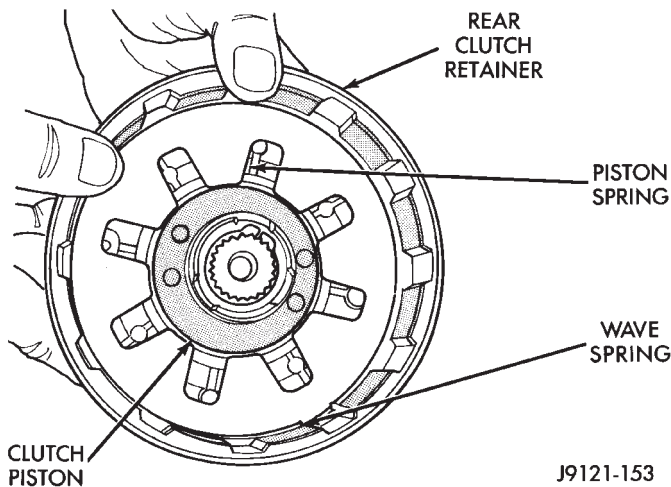

Fig. 77 Piston And Wave Spring Position
(8) Install piston spring in retainer and on top of piston (Fig. 77). Concave side of spring faces downward (toward piston).
(9) Install wave spring in retainer (Fig. 77). Be sure spring is completely seated in retainer groove.